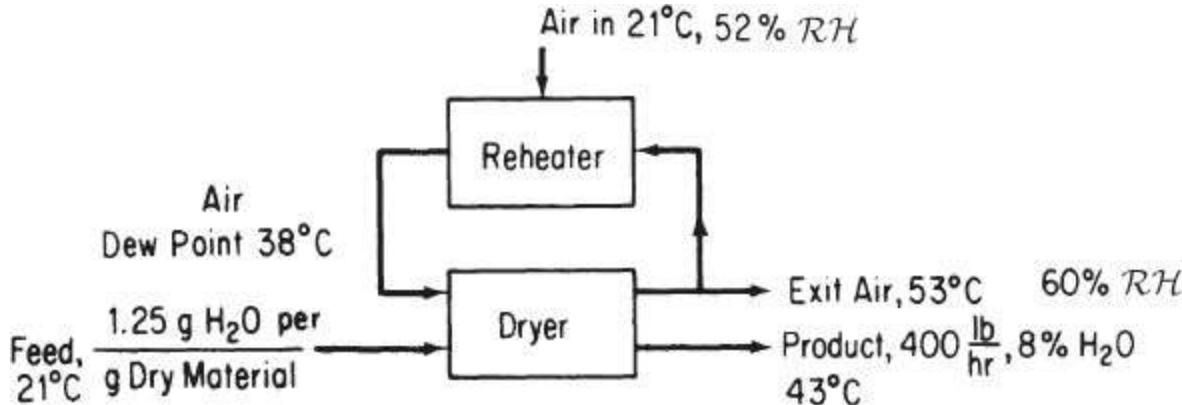

Figure P11.3.5
***11.3.5. A dryer produces 180 kg/hr of a product containing 8% water from a feed stream that contains 1.25 g of water per gram of dry material. The air enters the dryer at 100°C dry-bulb and a wet-bulb temperature of 38°C; the exit air leaves at 53°C dry-bulb and 60% relative humidity. Part of the exit air is mixed with the fresh air supplied at 21°C, 52% relative humidity, as shown in Figure P11.3.5. Calculate the air and heat supplied to the heater, neglecting any heat lost by radiation, used in heating the conveyor trays, and so forth. The specific heat of the product is 0.18.